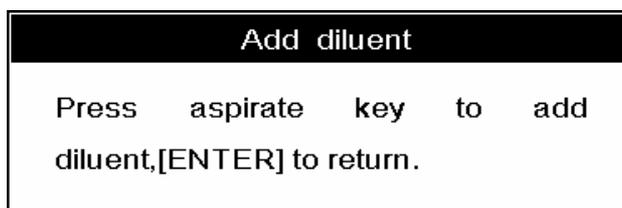

Figure 6-1 A message box showing you how to dispense diluent
5. Press [DILUENT] and a message box will pop up to instruct you how to dispense the diluent into the sample tube, as Figure 6-1 shows;